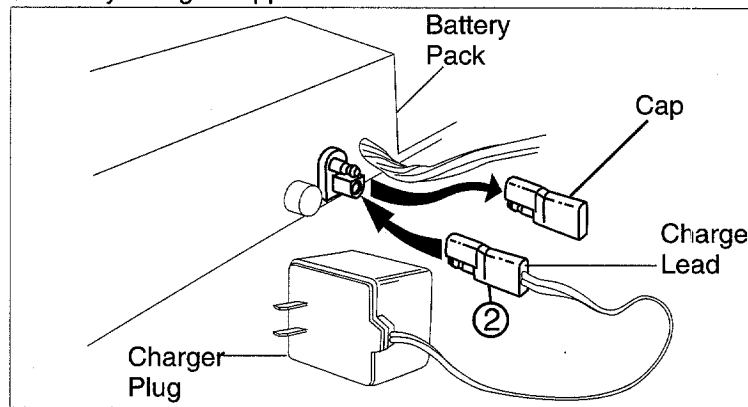

Figure 8
To charge the battery, (1) remove the protective cap from the end of the battery pack lead; (2) plug charge lead into battery pack lead; and (3) insert battery charger plug into 120 volt standard household outlet. See Figure 8. It is very important to follow this order of action for proper charging of the battery.